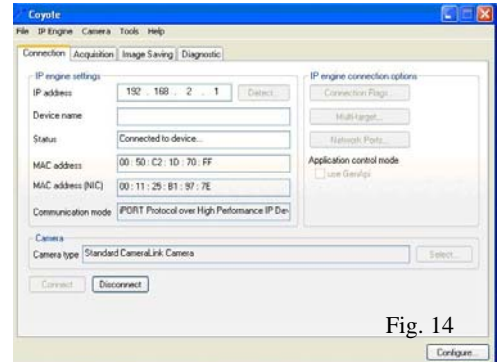

Fig. 14
- On “Camera”, click “Select camera”. GEViCAM cameras are designed to take the standard Pleora “camera link camera”. Click “OK”. Then click “Apply”. The IP Engine Setting information status indicates “Connected to device”. (Fig. 14)